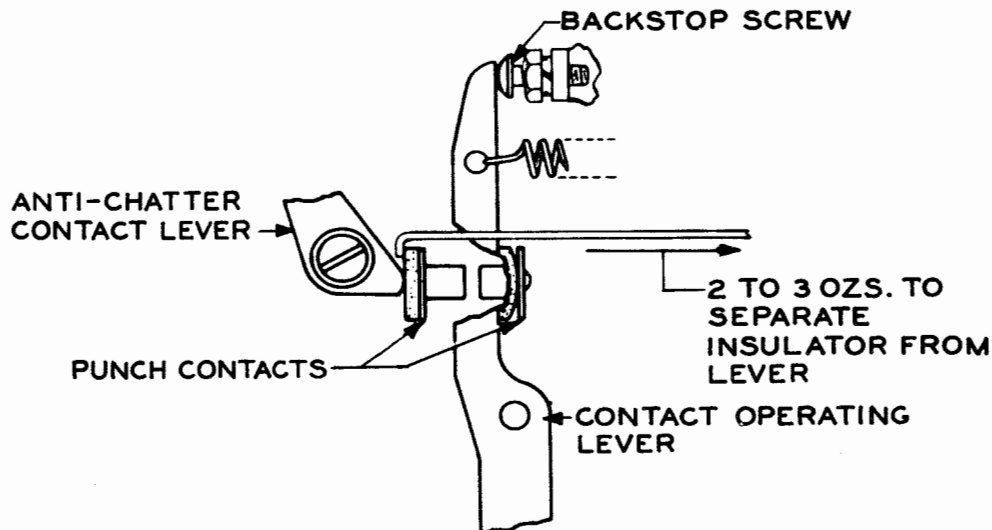

Figure 9
- (1) It should require a pull as specified in the figure to separate the insulator from the antichatter lever. See Figure 9.